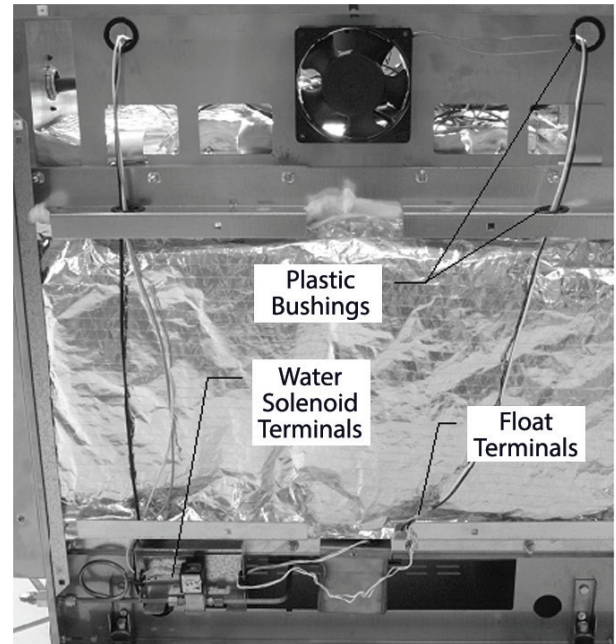

Figure 3
17. Insert plastic bushings provided in new kit into holes as shown in figure 3.
18. Disconnect wire push-on terminals from water solenoid and float (figure 3). Reconnect white and pink terminals from new wire harness to spade terminals on water solenoid (**Note:** Center spade terminal on water solenoid is not used).